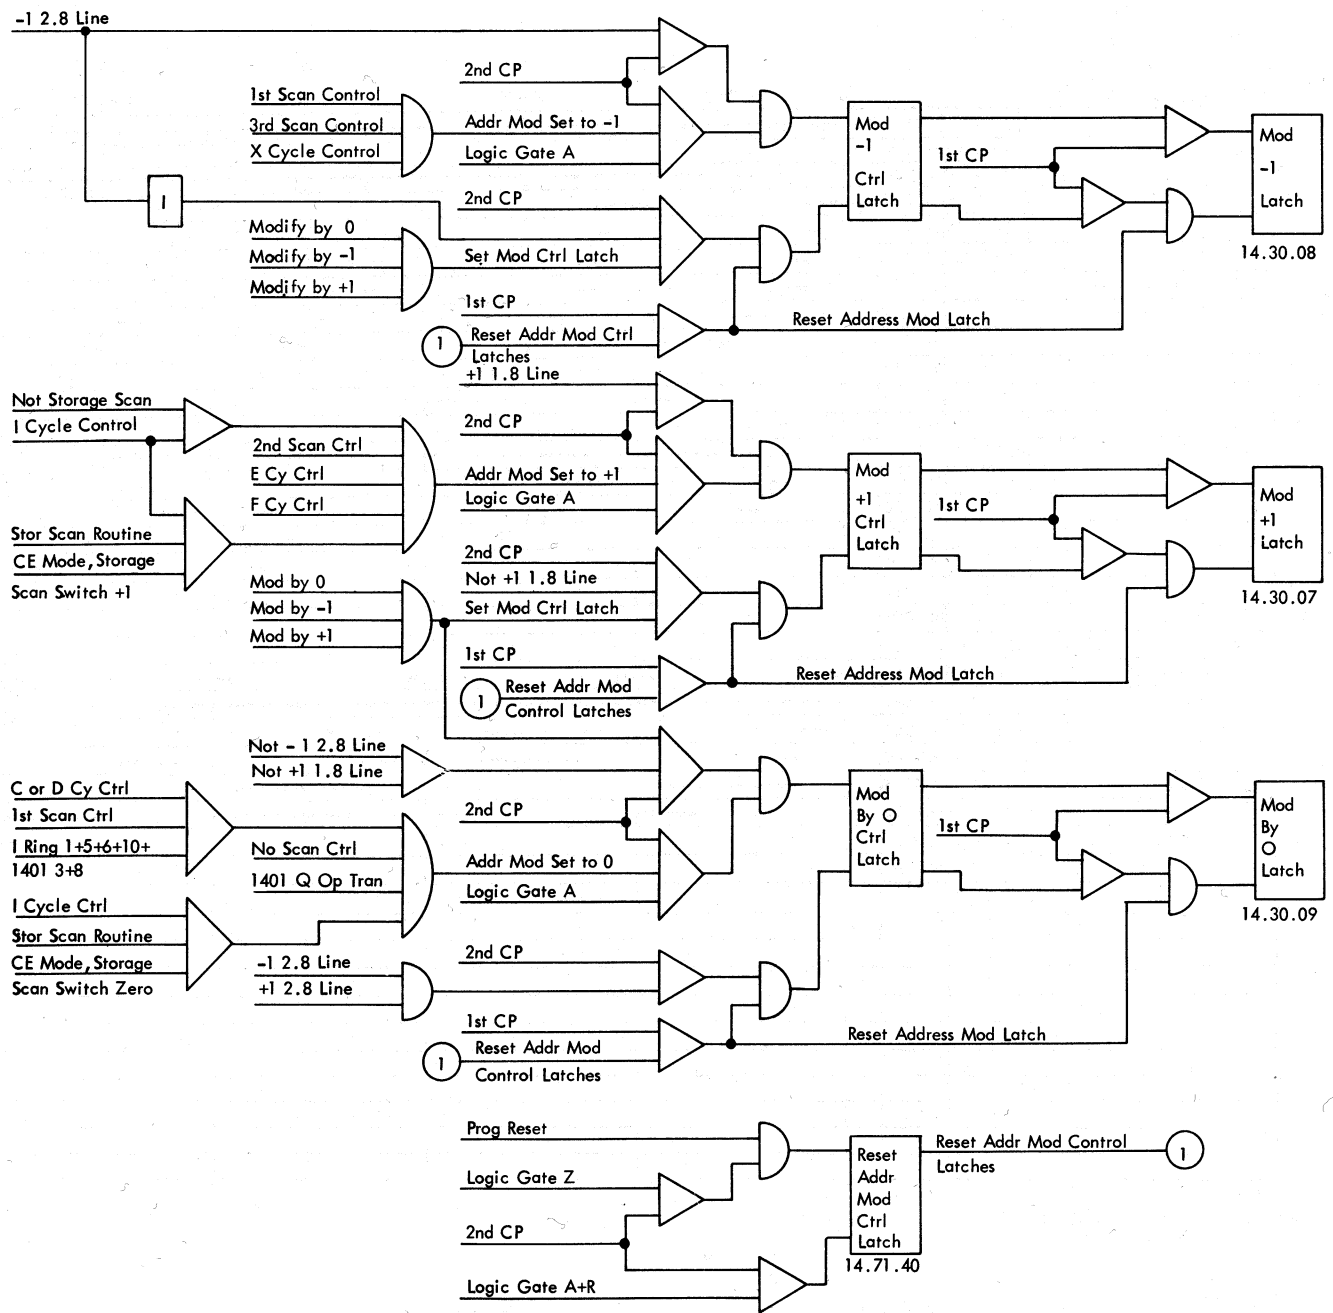

Figure 19. Address Modify Latches
2. Set modifier controls and after modifying the units position, controls are set to mod by zero except when minus one and a combination of 2 and 8 bits (borrow one) or plus one and a combination of 1 and 8 bits (carry). (See Figure 19.)